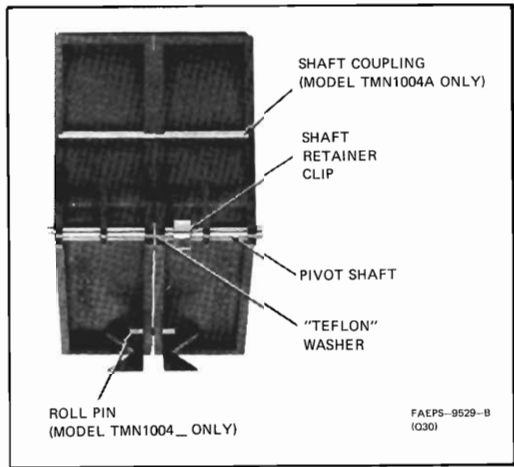

Figure 1. Pivot Shaft Detail
Step 3. Remove the shaft retainer clip from the pivot shaft (see Figure 1).